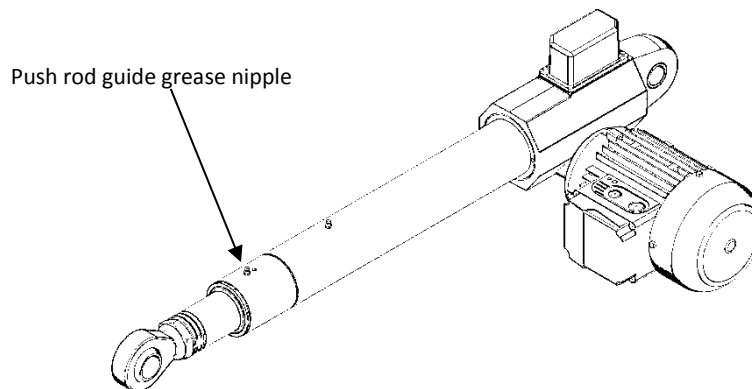

Figure 9.3 – Push rod guide grease nipple
- Relube the push rod guide using proper grease nipples, as shown on Fig. 9.3.